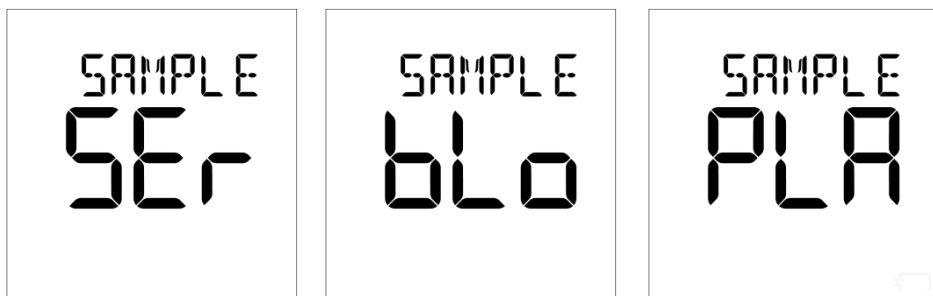

Fig 5.38
- Press the right or left button to select the sample, blood sample can be selected “SEr” (serum) or “BLo” (whole blood) or “PLA” (plasma) as Fig 5.38.